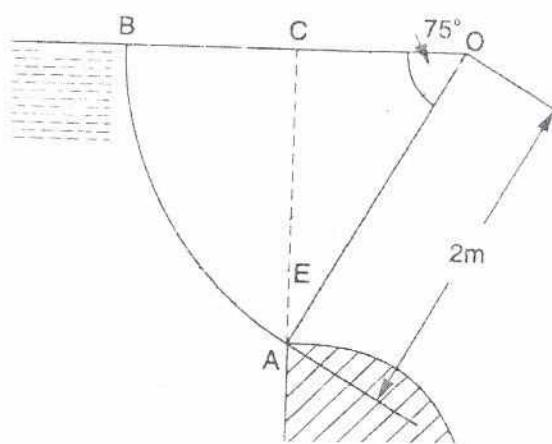

Fig. 2
**Q3:** (a) **Figure 2** shows a radial gate AB of radius 2 m. The width of the gate is also 2 m. Determine the magnitude and direction of the resultant force acting on it. [5]